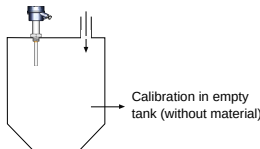

Figure 51: Calibration without Material
- Before Installing the device, ensure that the calibration process has been already carried out in safe area (Zone 2) then install the instrument in hazardous area as shown in Figure 51
- Dip the Casper into test tank as shown in Figure 51.